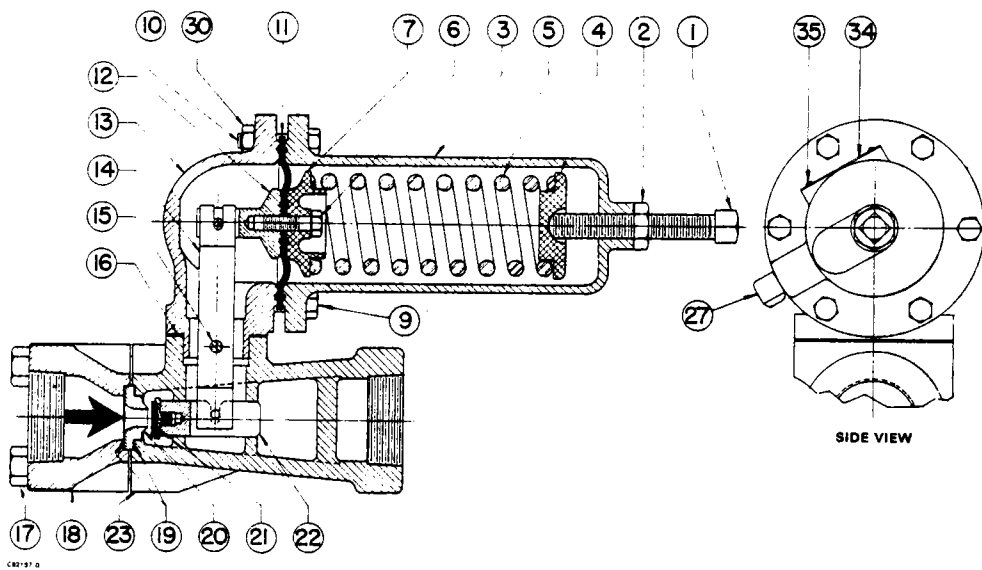

Figure 6. Spring-Loaded Type 630 Regulator—High-Pressure Construction
b. For constructions without a spring, tighten spring case cap screws finger-tight only. Remove cap screw (key 1, figure 6). Insert a rod in the spring case and push on the diaphragm assembly to take up the slack; then complete the tightening of spring case cap screws. Re-install cap screw (key 1, figure 6) in spring case.